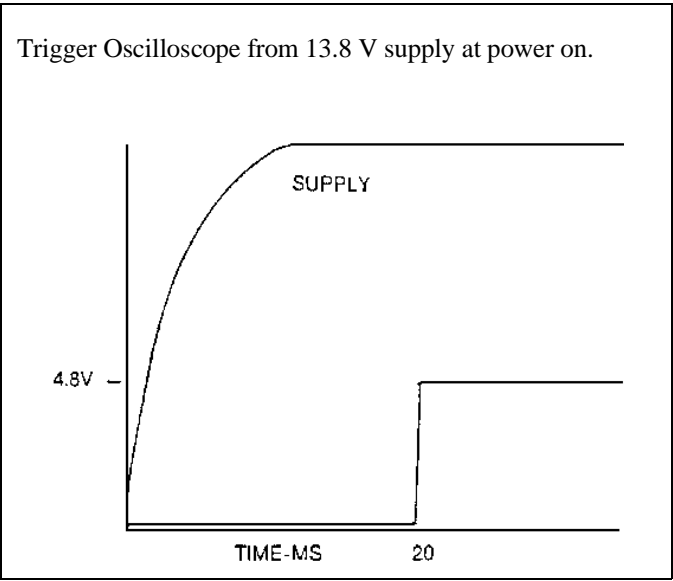

Figure 7 - Microprocessor (U77, Pin 10)
- 2. Check Power-On Reset on U77, Pin 10 (see Figure 7). If not present, check Regulator U63, Pin 2 and transistor Q21.